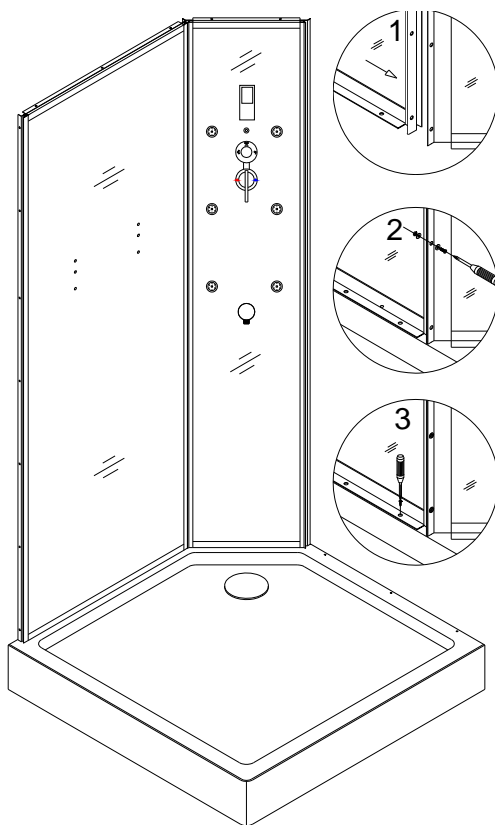

Fig 4
7. Locate the **Left stationary glass (2)** onto the tray. Secure the left stationary glass and the control panel with **Bolt M4x16 (9)**. Secure the tray and the left stationary glass with **Round head screws ST4.2x25 (12)**. See Fig 4 for details.